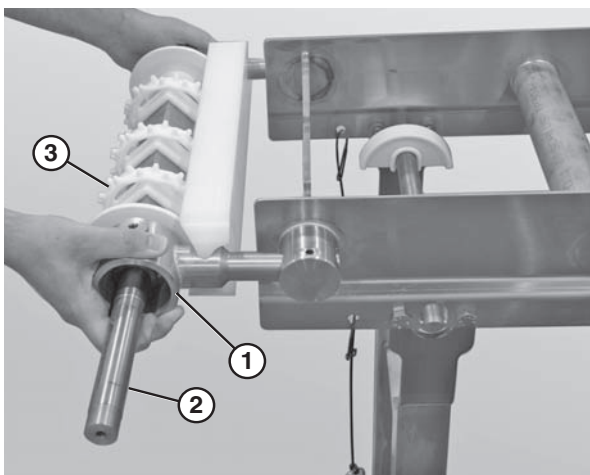

Figure 72
7. Slide the drive tail assembly out of the take up blocks (**Figure 72**).
8. Slide the motor support bracket (**Figure 72, item 1**) off the drive spindle (**Figure 72, item 2**).
9. Remove the sprockets (**Figure 72, item 3**).